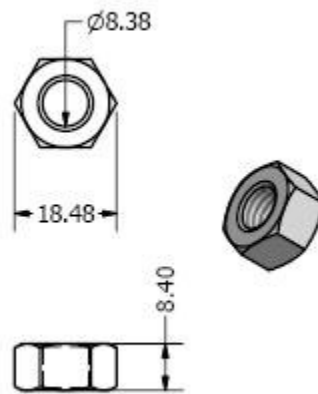

Figure 4 : Cargo Dimensions (in mm)
- 3.6 The cargo to be lifted will be nuts as shown in Figure 4. The nuts will be ferromagnetic and weigh between 10g to 20g.